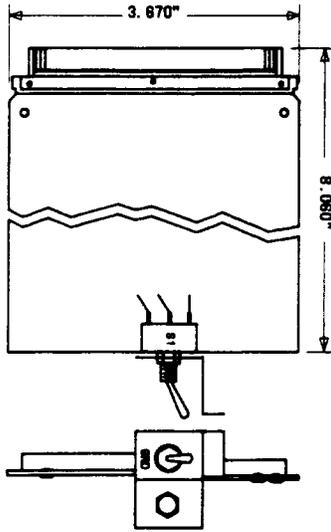

Fig. 7—814A Tester Tool
2.15 **814A:** The 814A tester tool (Fig. 7) is used on the 1A processor frame to perform the head alignment test on the KS-20571 recorder.